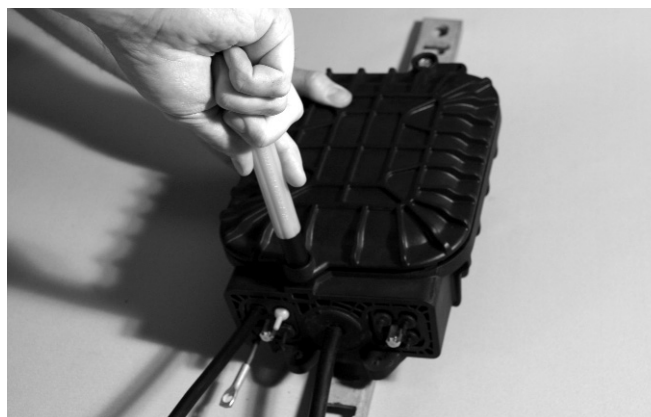

Figure 18
3. Alternately tighten each lid screw until the seal seats and the lid is tight on the base. (Figures 18 and 19)